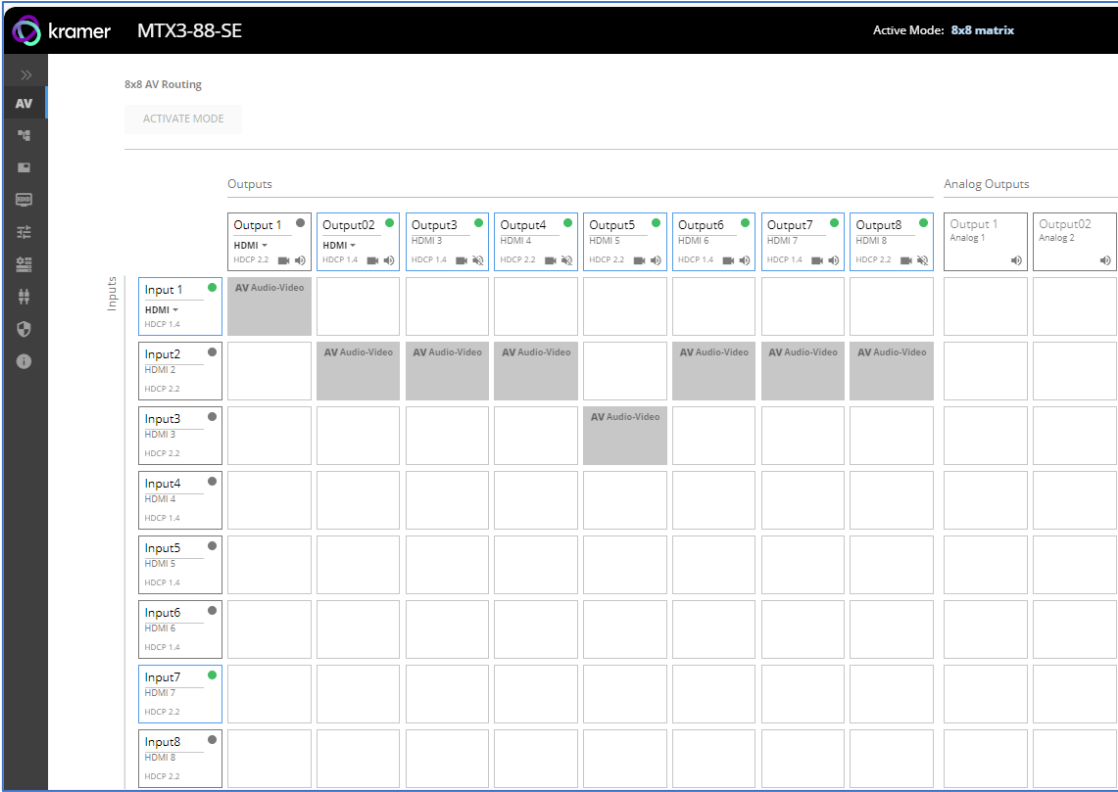

Figure 16: 8X8 AV Routing (Matrix) Operation Selected
1. On the Av Routing (Matrix) operation page (Figure 16), verify:
1. Click **8x8 AV Routing** on the Navigation List. The 8x8 AV Routing page appears (Figure 16).